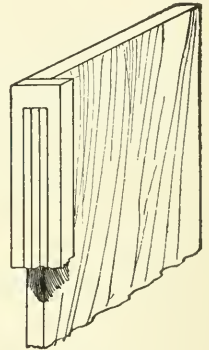

Fig. 226
85. Bead-cutters and reed-scrapers and fluters can be bought of various patterns. It is usually best to stop reeding a short distance from the ends of a surface, and with the chisel cut the reeds to a square end (Fig. 226).